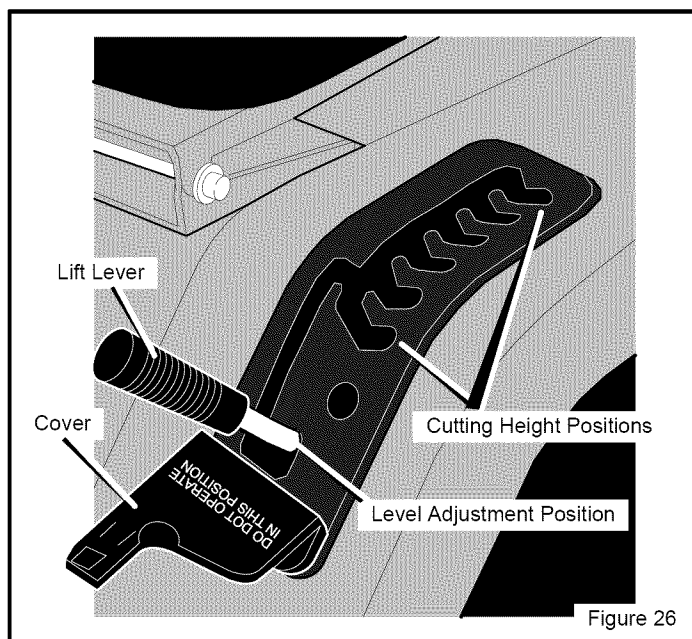

Figure 26
5. Move the **lift lever** to the LEVEL ADJUSTMENT position (Figure 26).